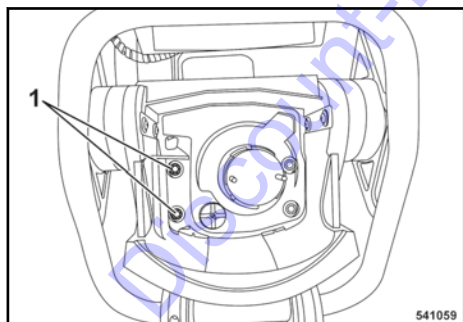

Fig. 57
Tighten the screws (1) ↪ Fig. 57 (right hand side) of the air filter housing hand-tight (max. tightening torque 50 Nm (37 ft.lbs.).